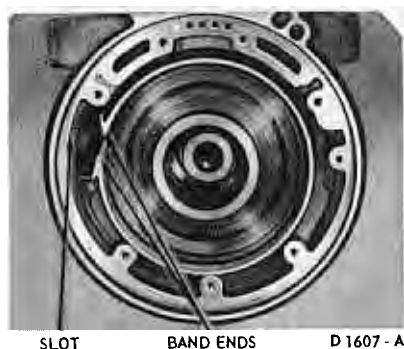

FIG. 27—Removing or Installing Band
11. Rotate the band 90° counter-clockwise to align the ends with the slot in the case (Fig. 27). Slide the band off the direct drive clutch drum.